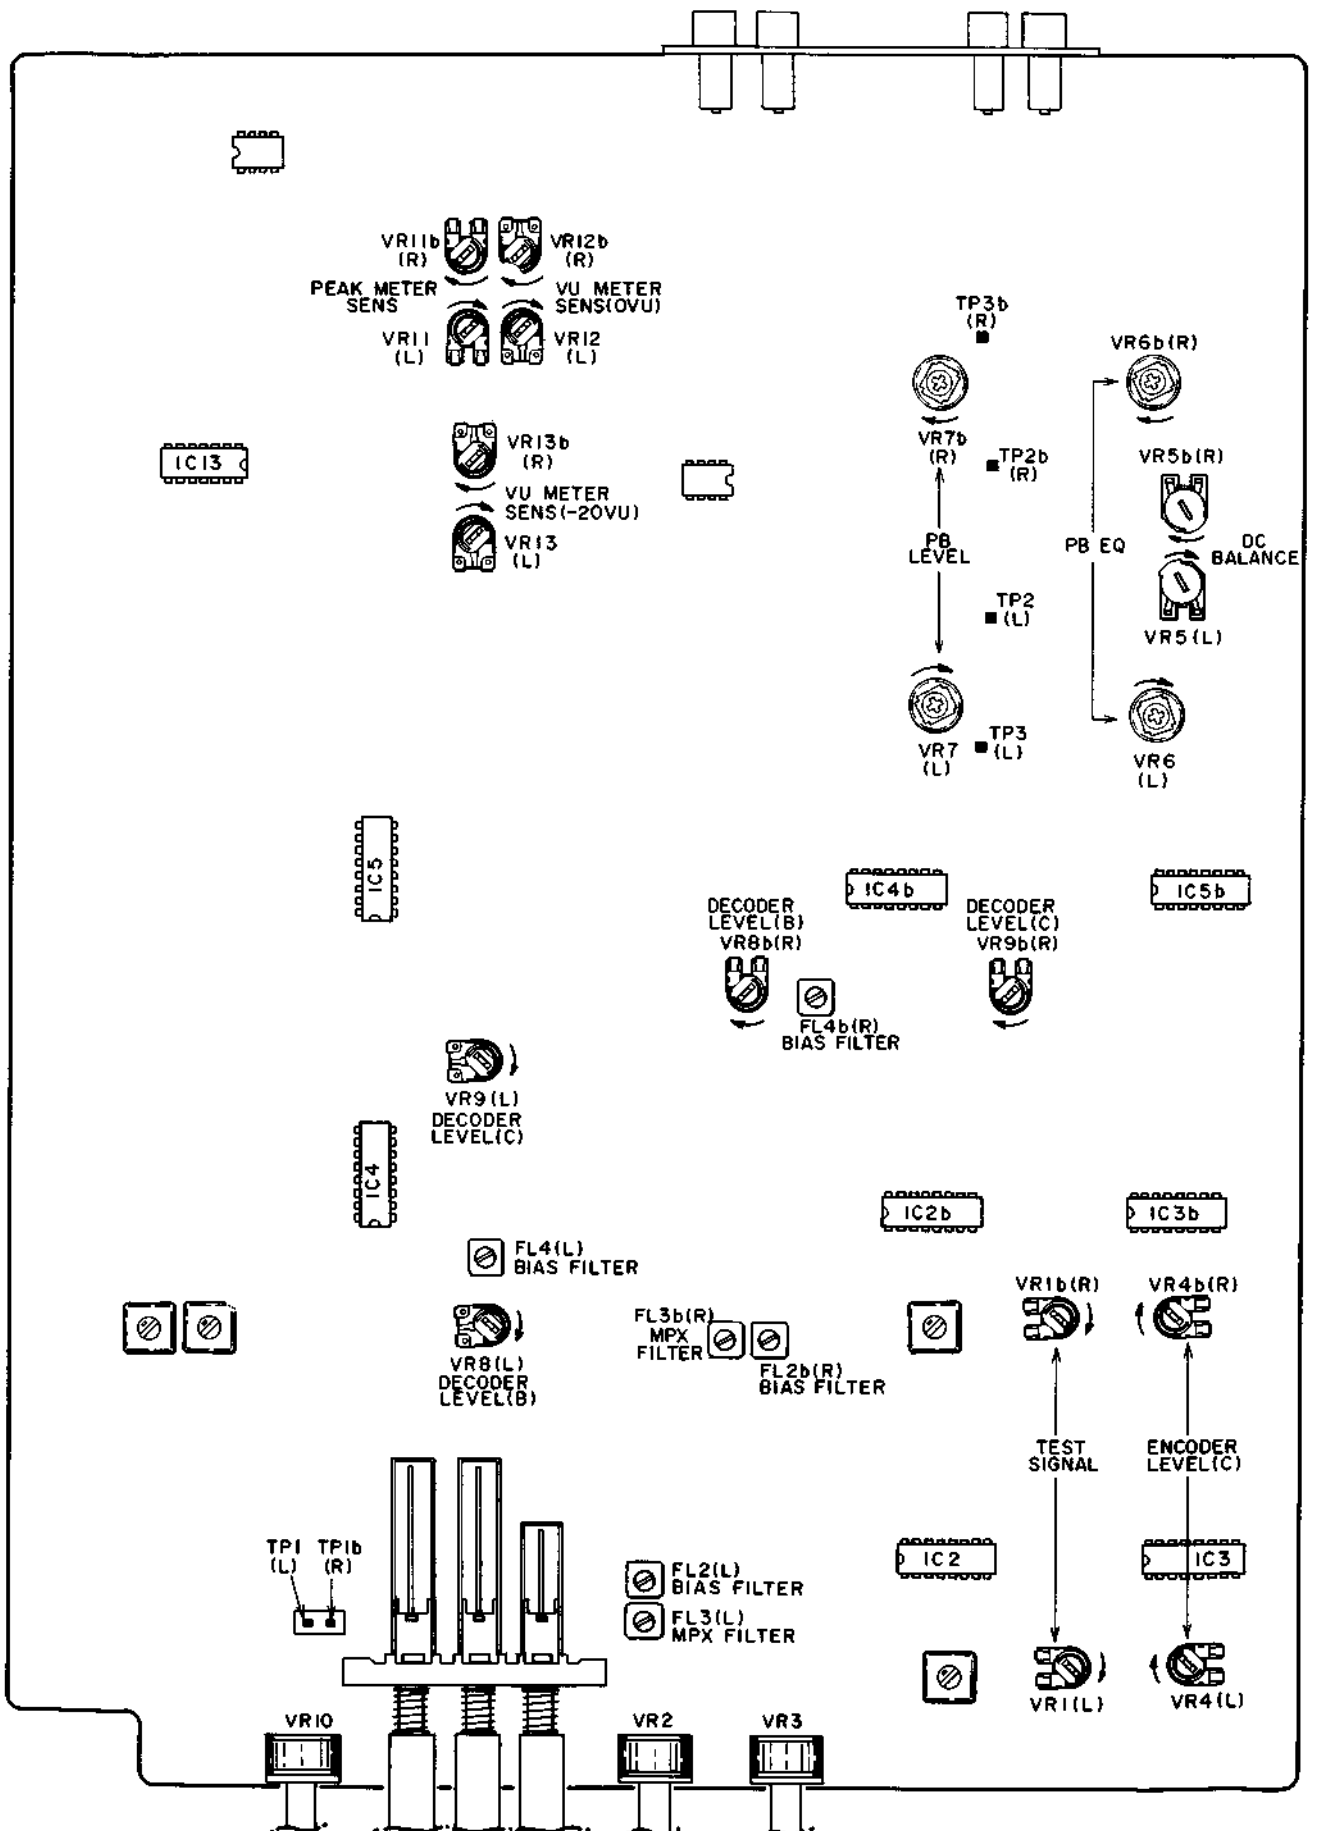

Fig. 11 Pre Amp P.C Board
**1. PB EQ AMP ADJUSTMENT (Fig. 11)**
**2. METER ADJUSTMENT (Fig. 11)**
**3. DOLBY ENCODER ADJUSTMENT (Fig. 11)**
**4. DOLBY DECODER ADJUSTMENT (Fig. 11)**
- With the monitor SW to SOURCE, adjust VR1 (Fig. 11 Pre Amp PCB) so that the LINE OUT level will be  $-25.5 \pm 0.2$  dBm.